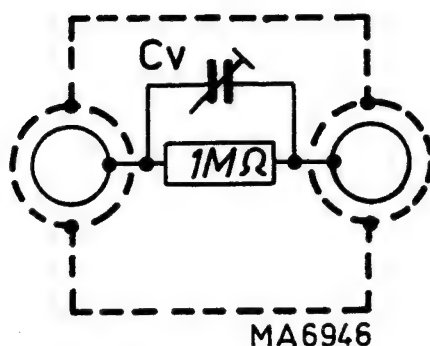

Fig. 3.12. 2:1 Dummy probe
- To equalize the input capacitance in all positions of the AMPL/DIV (i.e. attenuator) switch, for some adjustments, a 2:1 dummy measuring probe is connected in series with Y_A input socket. The dummy probe consists of the parallel circuit of a 1 M Ω resistor and a 3-60 pF trimmer (Fig. 3.12) and is adjusted as indicated in the following table.